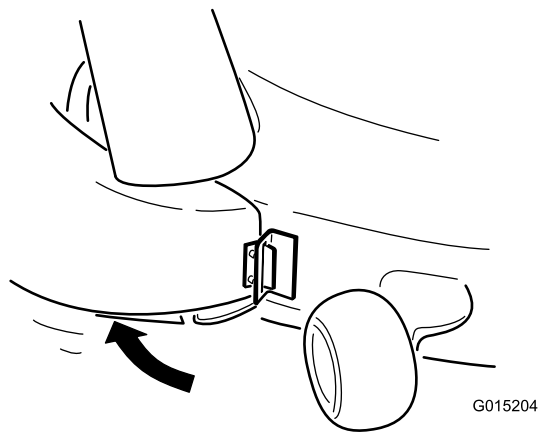

Figure 26
2. Pivot the chute back and toward the deck so chute is flush with the mower deck (Figure 26).